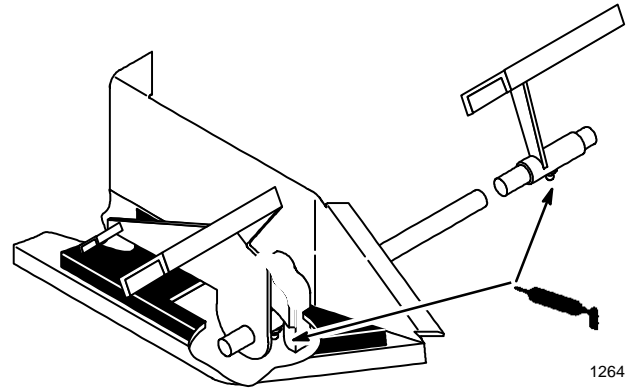

Figure 24
3. Lubricate the traction control pedal on hydrostatic models (or brake and clutch pedals on gear drive models) where they pivot on mounting shaft (Fig. 24).